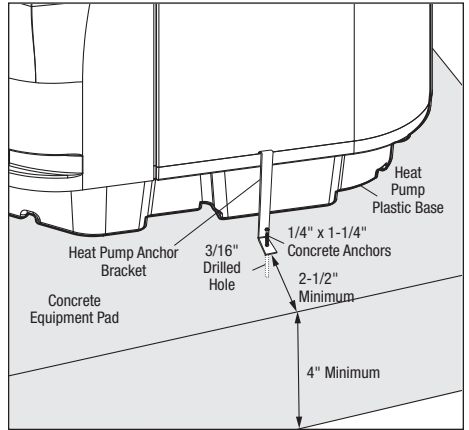

Figure 3. Anchor Clamp Installation
3. Fit the hook of each clamp over the lip on the base panel of the heat pump. The hook should fit between the lip of the base panel and the evaporator coil guard (see *Figure 3*).
7. Position the anchor clamps so that the holes in the clamps are over the bolt anchors. Be sure that the clamp hooks are over the lip of the heat pump base (see *Figure 3*).